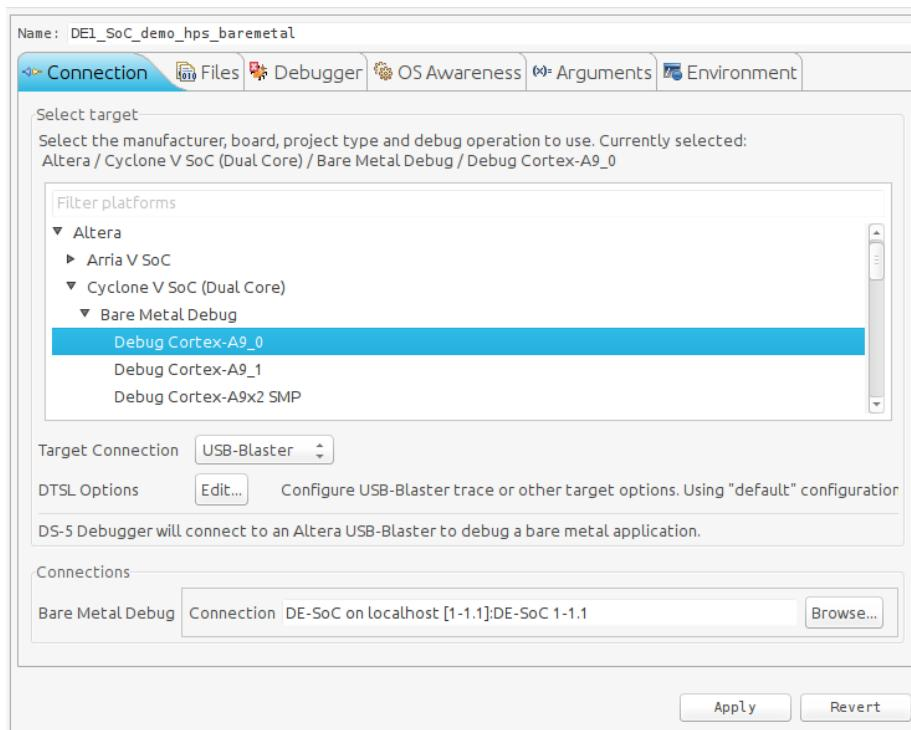

Figure 8-30. Debug Configuration "Connection" Tab
- d. You should have something similar to Figure 8-30.